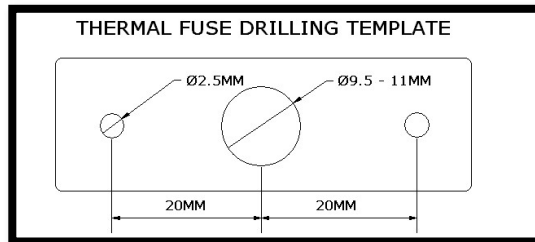

Fig. 2
7.2 Drill holes in duct (sizes/positions are detailed on template label – see fig. 2). Remove burrs.